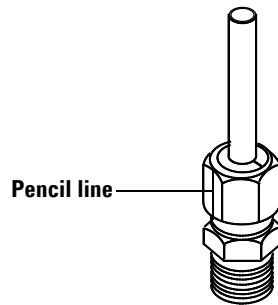

Figure 12 Marking the fitting
- 7 Mark the nut with a pencil line (Figure 12).